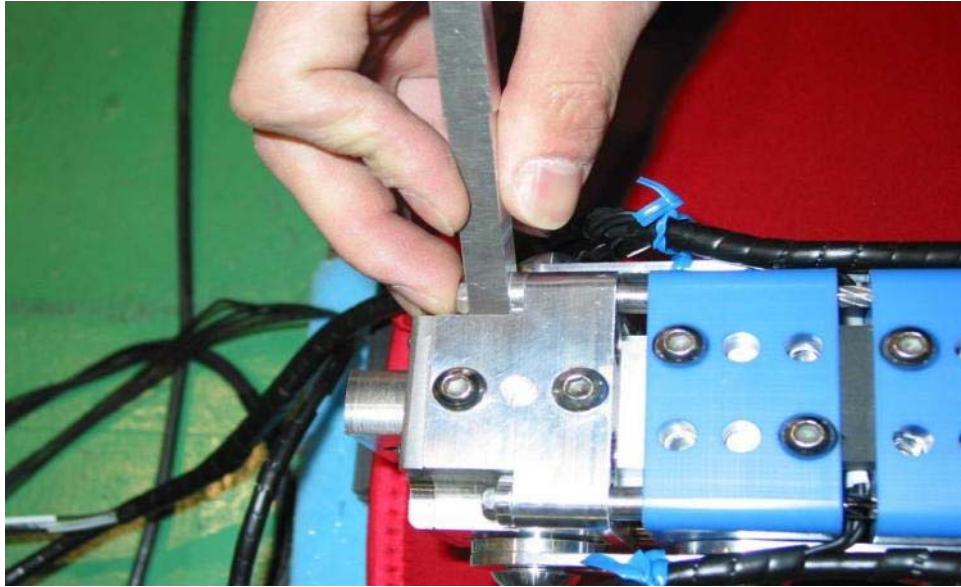

Figure 90 . Stop cable clearance adjustment using setting tool
Step 4: Check the four stop cable clearances passing through the femur are set to 9.1 mm and 10.3 on the tibia. See Figure 90 a special tool 133-5112 is used for this;
Step 4: Check the four stop cable clearances passing through the femur are set to 9.1 mm and 10.3 on the tibia. See figure 90 a special tool 133-5112 is used for this.